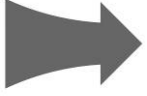

**Fig 2 Back view**
The ventilating adjustment knob (Fig 1 ②) used to activate the ventilator located at the back of the oven (Fig 2 ①), allows adjusting of the exchange of the fresh air and hot air. It is highly recommended to open the ventilator when low operating temperature, cooling down from higher operating temperature or high humidity within the oven is expected. The ventilator shall be closed when the operating temperature is maintained at 100°C or higher.
### 2.2.2 Back view (Fig 2)